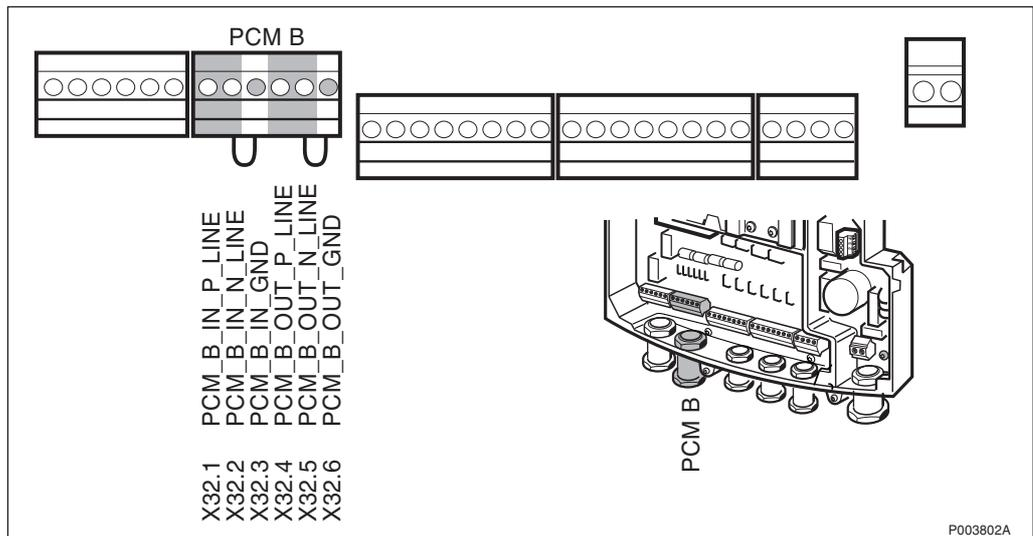

Figure 298 Connecting the 75 Ω PCM cable to the termination block (Cascade connection)
6. Make sure that a jumper wire is connected between X32.2 and X32.3. Make sure that another jumper wire is connected between X32.5 and X32.6, *see Figure 298 on page 242*.